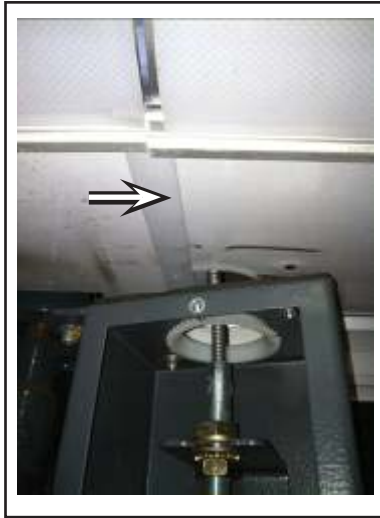

Figure 10 - Joint Strip
- 2.7. Disassemble the joint strip from the panel and neighboring panel. Discard the joint strip. See Figure 10.